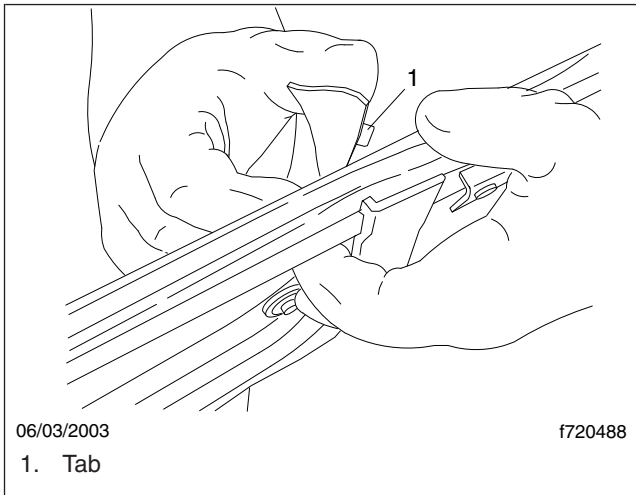

Fig. 2, Remove/Install the Vent-Window Seal
11. Stretch the bottom edge of the seal and push the locking tabs into the slot in the frame. See Fig. 2.